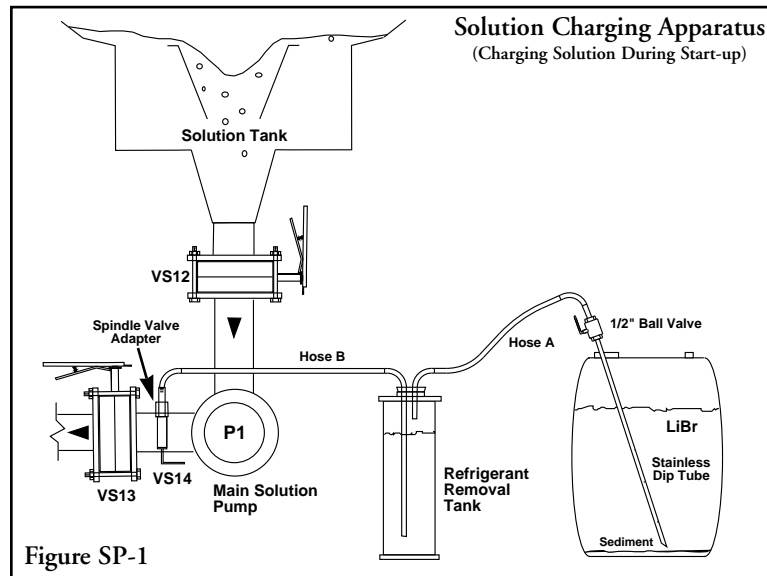

Figure SP-1
1. Set up charging apparatus as shown in Figure SP-1.
2. Fill up the refrigerant removal tank (2/3-3/4 full) and hose (B) with lithium bromide solution (refrigerant may also be used).